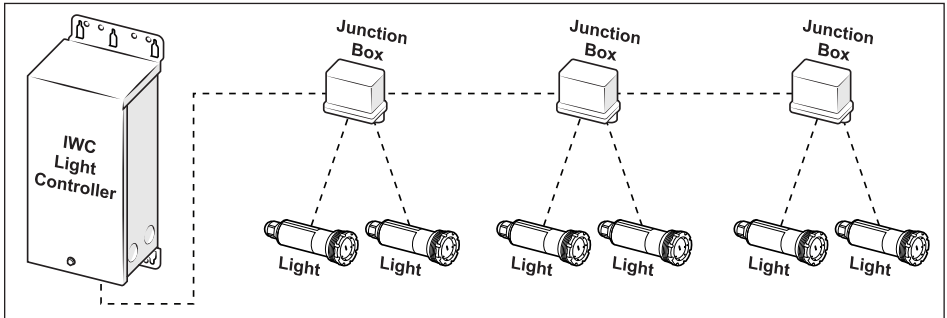

Figure 3. Do Not Daisy Chain Junction Boxes
- Junction boxes shall not be daisy chained together. This will create a large load of power at the end of the power distribution network and will result in communication losses. Wire directly to the power source instead. (See Figure 3)